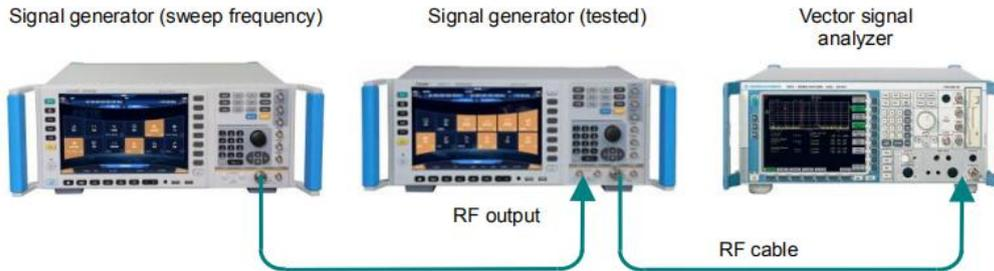

Fig.7.10 External FM Frequency Response Test
**Step 2. Connect the device as shown in Fig.7.10.**